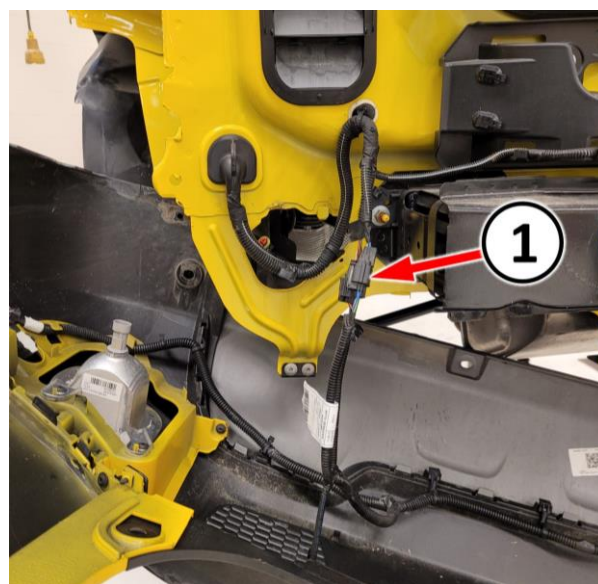

Figure 11 – Fascia Electrical Connector
- 20. Disconnect the wire harness connectors from the rear fascia (Figure 11).
26. Connect the wire harness connectors to the rear fascia (Figure 11).